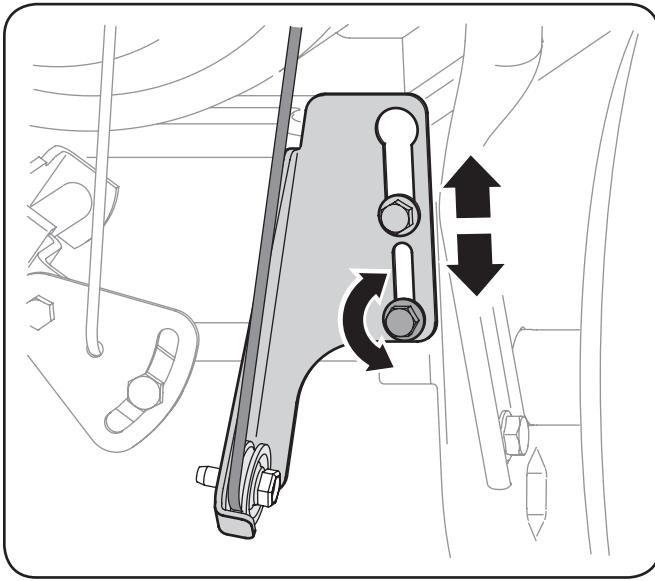

Figure 6-10
2. Loosen the lower hex screw on the drive cable bracket. See Figure 6-10.